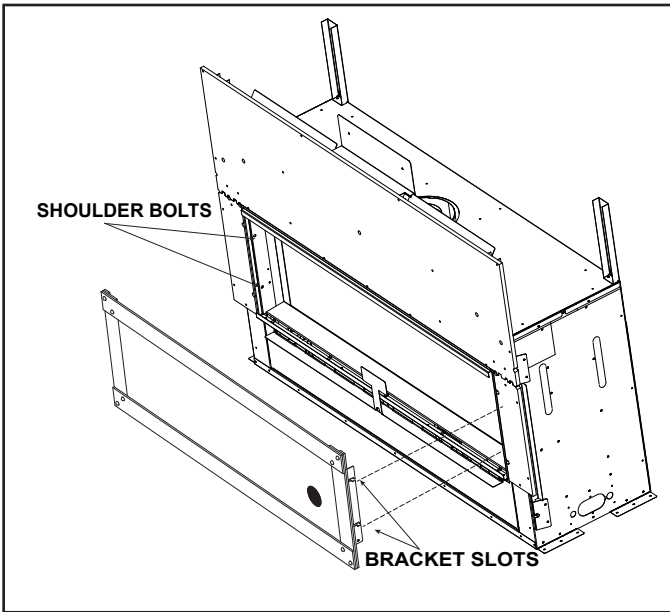

Figure 7. Install Decorative Front
- Hang the decorative front by aligning the slots on the bracket on the back of the decorative front with the four shoulder bolts now installed on the appliance. See Figure 7. Push decorative front toward appliance until it touches the finishing material. Do not allow any part of the decorative front to recess past finishing material.